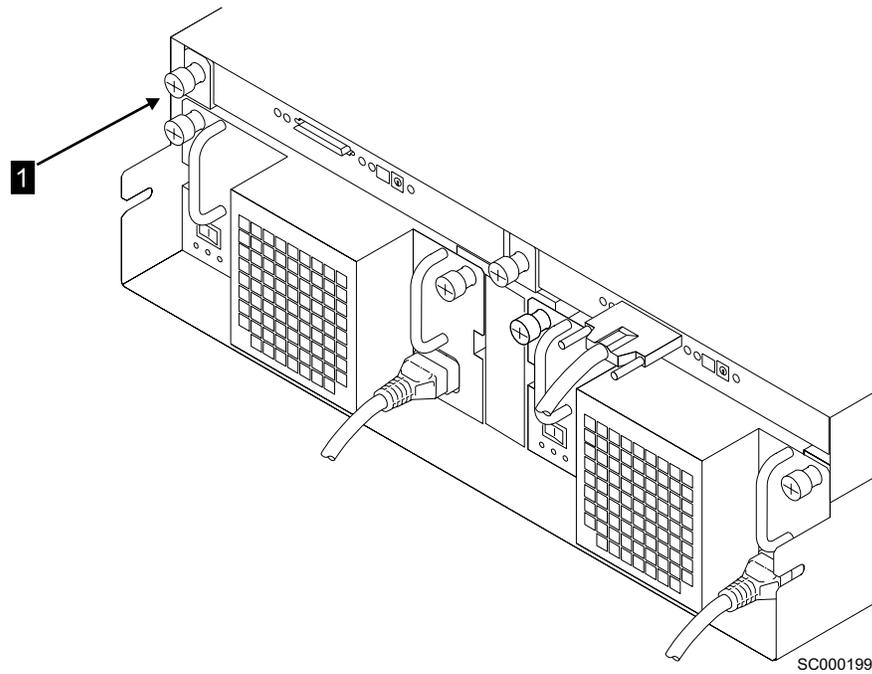

Figure 76. Tightening the thumbscrews
7. Tighten the thumbscrew. See Figure 76.